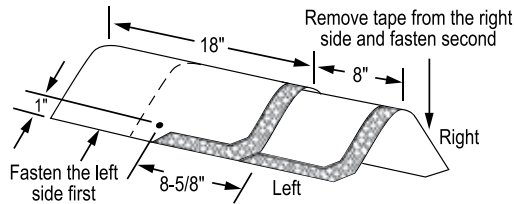

Figure 18-17: Installation of Shingle Ridge shingle on hips and ridges.
7. Next install one full Shangle Ridge shingle over top of the "starter shingle", aligning its sides and lower edge to it. Remove the protective tape from the sealant between the two layers and bend the shingle along the centerline of its longer dimension to form into place over the hip or ridge. Fasten each shingle with 2 fasteners minimum 1 3/4" (44 mm) long located as shown in Figure 18-17. Expose each Shangle Ridge 8" and cover all fasteners.